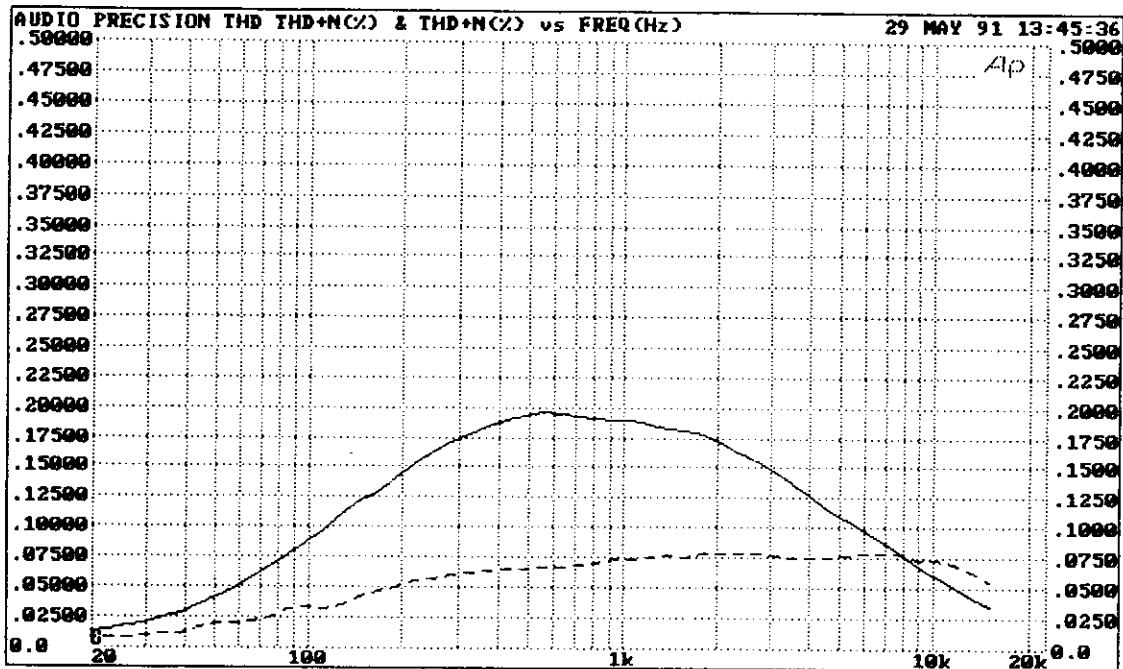

Figure 5: THD (A-weighted) vs. Frequency at full power (375W/8Ω)
F) Check full power with both channels driven into 8 ohms at 2kHz (see Figure 5).